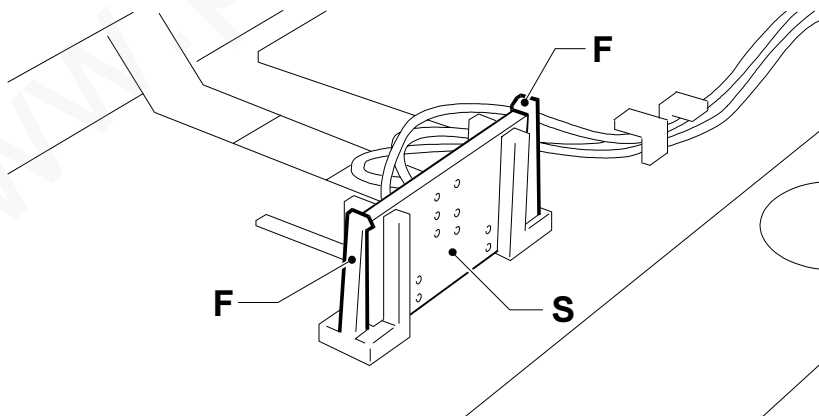

Fig. 7-50
- 2) Extract sensor **S** from its housing flexing the side stops **F** (Fig. 7-50):